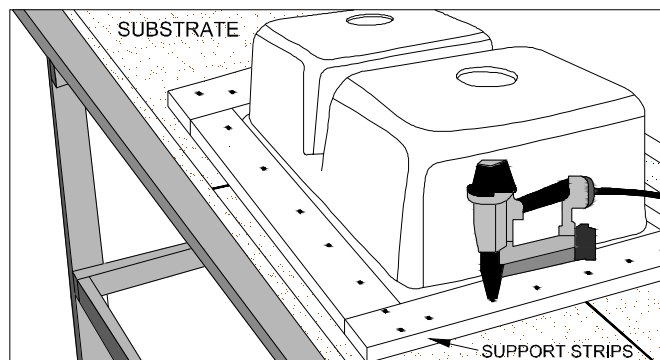

Figure 21D
- Place  $\frac{3}{4}$ " thick wood support strips around entire perimeter of sink flange. (FIG. 21D)